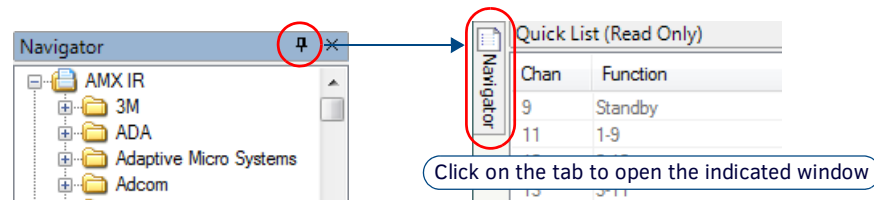

FIG. 2 Thumb Tack button and Window tab
- Click on the thumb tack button located in the top right of each window to collapse the window down to a tab located on the side of the screen (FIG. 2):